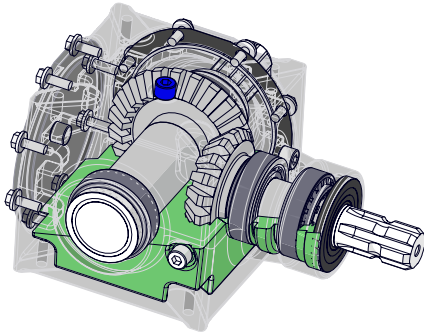
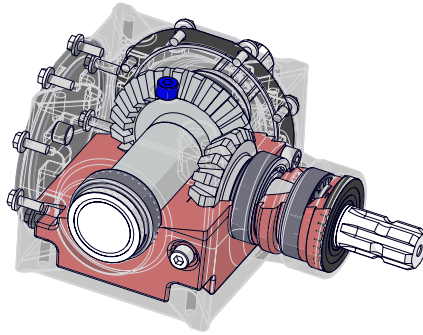

Figure 1
Figure 2
The drawing shows the proper way to mount the wheels using Budd-type nuts. The track wheels supplied with your grain cart have straight holes and the Budd nuts will be mounted according to Figure 1. Track wheels that are improperly installed on the grain cart, resulting in product failure, will nullify warranty and shift the burden of liability to the owner/operator. **We recommend you inspect your wheel nuts to make sure they are properly installed. Also, check the wheel nuts on a regular basis to ensure they are tight.**
**90 DEGREE REAR GEARBOXES:** Gearbox lubricant has been added to the gearboxes during final assembly. Recheck the lubricant level before initial operation of the grain cart, then periodically according to use. For the gearbox on the left while looking at the rear of the cart, the fluid level should be between the bottom and halfway point of the 2" output shaft that bisects the gearbox. The recommended fluid level range is pictured in Figure 1 and Figure 2 below. The minimum level is pictured in green and the maximum level is pictured in red. A pressure relief plug is in the center of the top of the gearbox mount plate. To check the fluid level, remove the vented inspection plug and view the fluid level from above. When filled to the maximum level (shown in red), the gearbox should have 80 ounces of SAE 80W-90 lubricant. Change the oil annually before use.